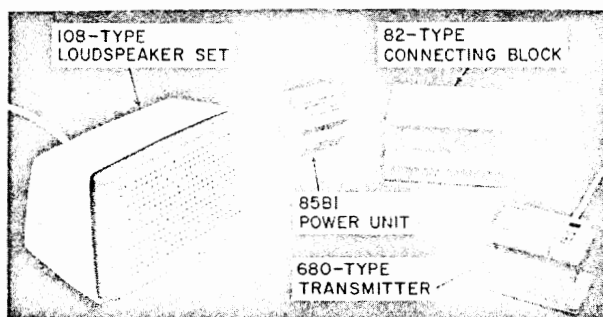

Fig. 2—Components of 4A Speakerphone System
1.04 Components of the 4A speakerphone system are shown in Fig. 2.